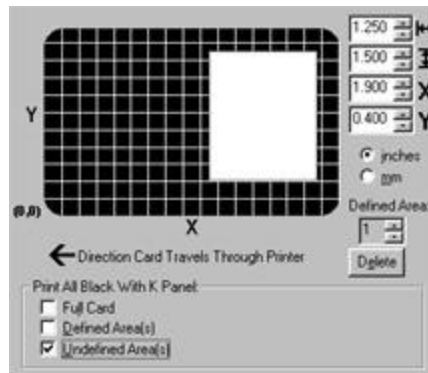

Figure 3-10
3. Select the **Undefined Area(s)** option to print the resin black (K) panel for all black found only in the space outside the areas defined. See Figure 3-10.